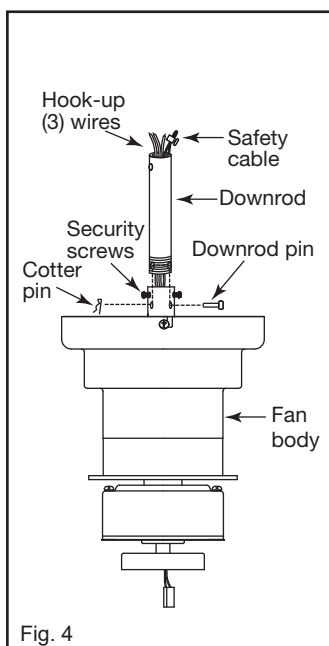

Fig. 4
Step 4. Remove the downrod pin from the coupler assembly by removing the cotter pin from the downrod pin. Loosen the two security screws. Carefully feed the electrical lead wires and safety cable from the fan through the downrod. Thread downrod into coupler until holes align. Insert downrod pin through holes in mounting coupler and downrod; clip cotter pin through small hole in end of downrod pin to hold downrod in place. (Fig. 4)